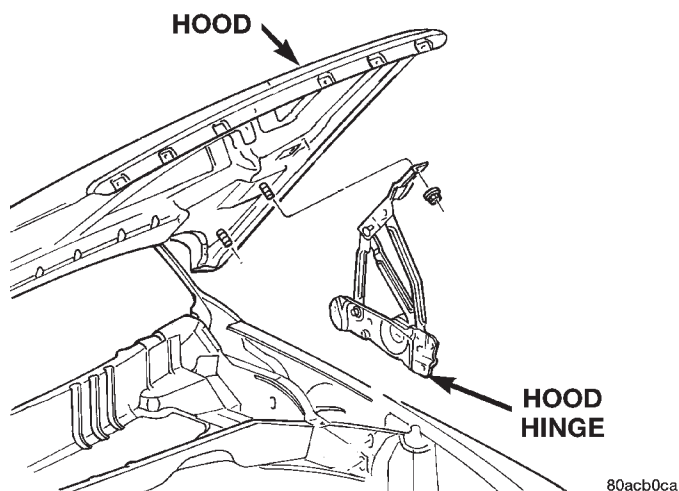

Fig. 2 Hood
- (1) Release primary hood latch.
- (2) Release hood safety catch and open hood.
- (3) Disconnect the under hood lamp wire connector.
(4) Mark all nut and hinge attachment locations with a grease pencil or other suitable device to provide reference marks for installation.
(5) Remove the top nuts attaching hood to hinge and loosen the bottom nuts until they can be removed by hand (Fig. 2).
(6) With assistance of a helper, support the hood at the opposite side of the vehicle.
(7) Remove the bottom nuts and separate the hood from the vehicle.